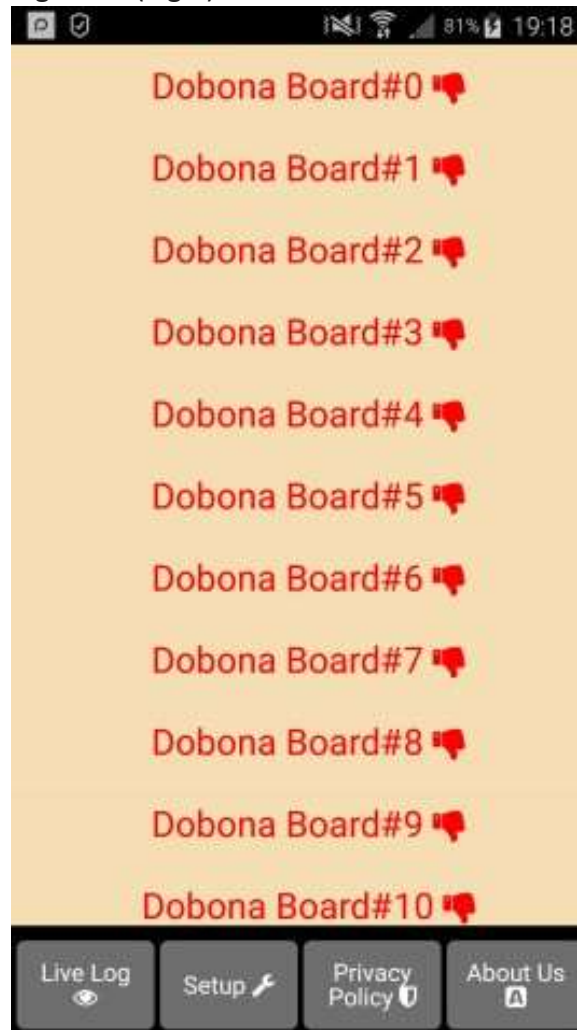

Fig 2.
4. Since no board has been setup yet, the user should press on the setup button on the bottom of the screen to move to the setup page, which looks similar the live log page but with beige background (Fig.2).